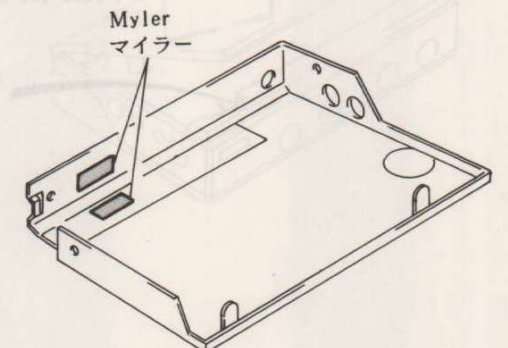

Fig. 13
- 1) Check that 2 mylar sheets are pasted on the rear panel. (See Figure 13)